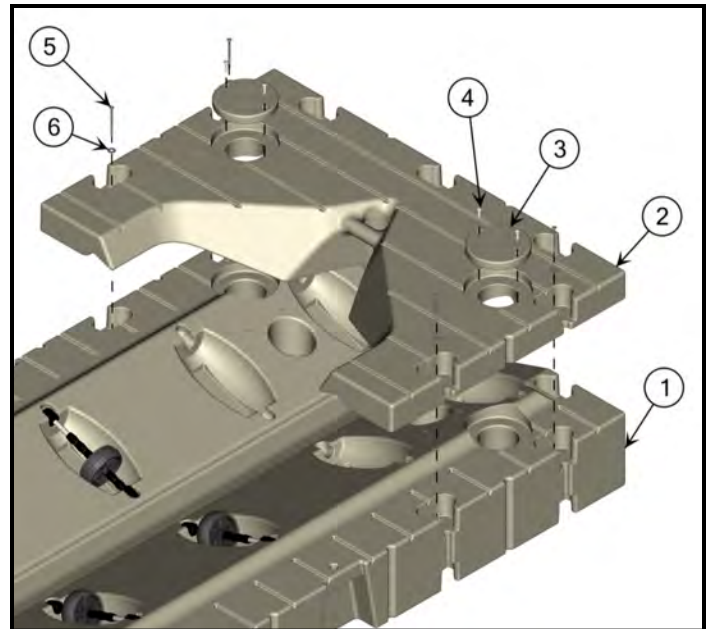

Figure 4.
- The full bow section (Item 2) must be used to attach the EZ Port MAX to new or existing EZ Dock floating docks and provides additional walking surface, (Figure 4). To install, place the full bow section onto the front of the entry section and align the front with the front of the entry. Install four (4) bolts and washers (Items 5 & 6) into the holes as indicated below and tighten.
**Step 3:** Assemble a Full Bow Section at the front of the EZ Port MAX Extension. (See page 11, Figure 4 for Full Bow Section assembly instructions).